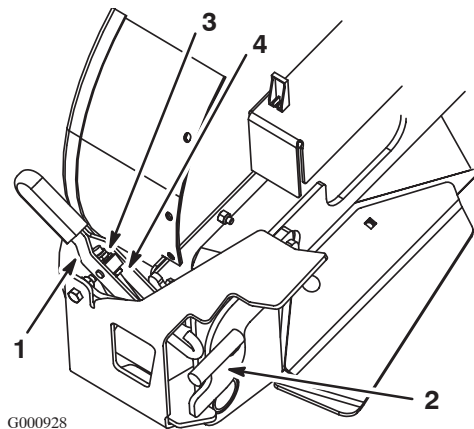

Figure 35
- The blower latch must engage the front peg properly. If it does not, proceed to item 5 of this procedure and lengthen the latch (Fig. 35).
- Adjust the lock nut at the end of the rod hook so there is no gap between the blower and mower deck and that it engages the front peg properly (Fig. 35).
- Tighten the jam nut up against the block in the handle (Fig. 35).
- Tighten the lock nut at the end of the rod hook (Fig. 35).